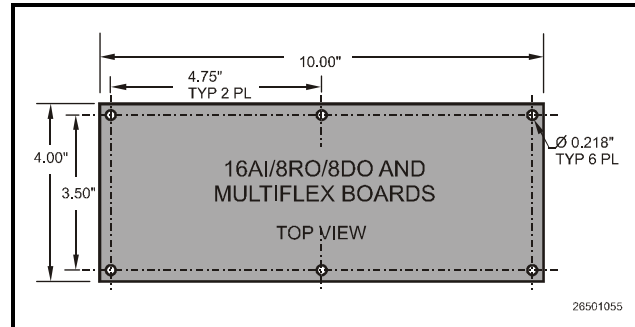

Figure 2-2 - MultiFlex Board Dimensions
*Figure 2-2* provides mounting dimensions for the MultiFlex board.